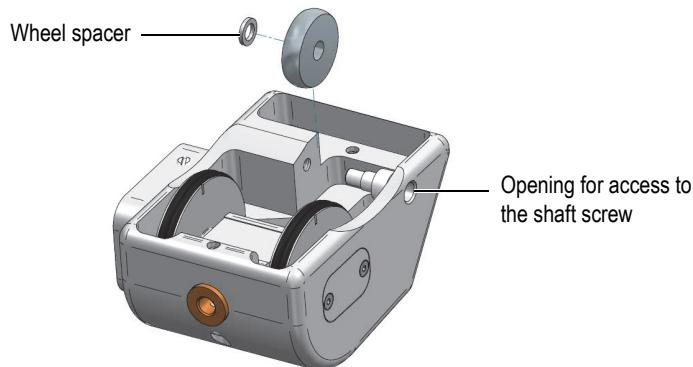

Figure 3-4 Idler wheel
1. Loosen and remove the screw on the end of the idler-wheel shaft, using an Allen key (see Figure 3-4 on page 33).